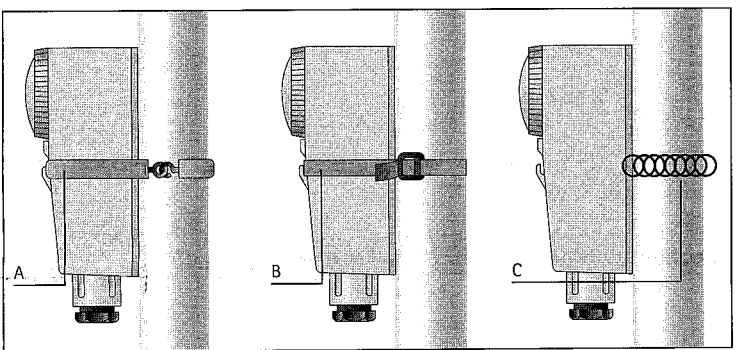

fig.4 - εικ.4
- B) Fissare il prodotto alla tubazione utilizzando l'accessorio specifico in dotazione. (fig.4)
- B) Disjoin the adjusting knob (when present) and then release the relevant fixing screw. Remove the front cover. Thread the power supply wires in the provided fairlead and connect them to the appliance terminals (fig.4) according to the instructions of the following paragraph "Wiring Connections". Snap the front cover back, tighten it by means of the provided screw and then fit the knob in its proper seat (if applicable).